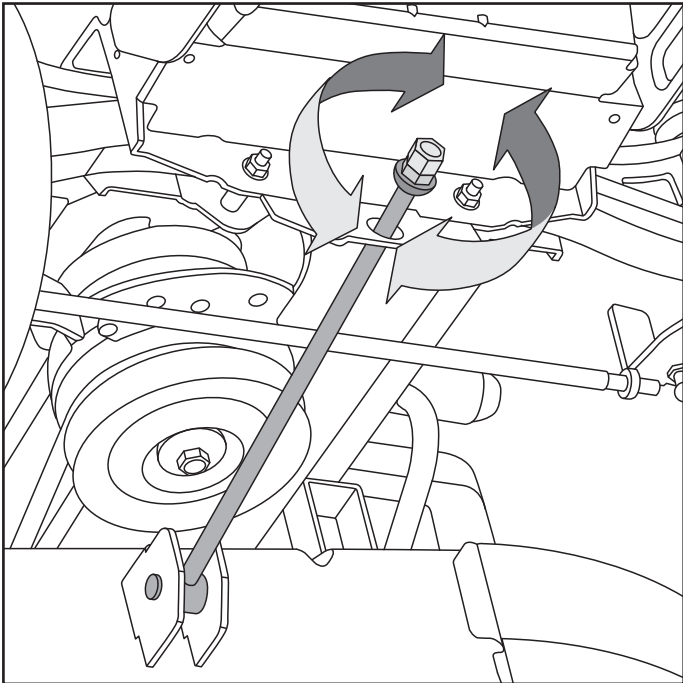

Fig.26
3. If front-to-back adjustment is needed, after loosening the outer jam nut, turn the inner adjustment nut clockwise to raise or counterclockwise to lower the front of the cutting deck.(Fig. 26)
5. Without moving the inner adjustment nut, re-tighten the outer jam nut to secure the inner adjustment nut in place.(Fig. 26)